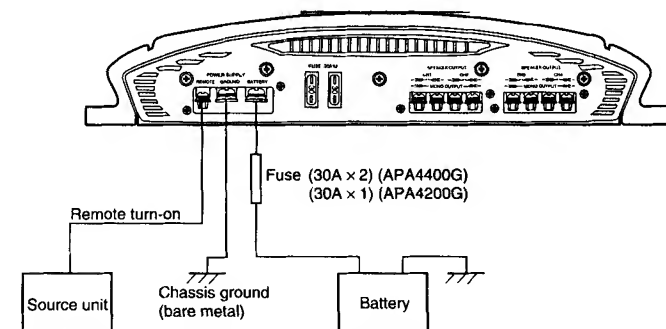

Figure 12 Electrical Connections for the APA4400G/APA4200G Car Audio Amplifier
- Refer to Figure 12 when making electrical connections. Connect the amplifier's positive (+) power lead via a fuse directly to the positive (+) terminal on the car battery. Do not connect this wire to the car's fuse panel. Use the yellow-insulated 8 gauge (for APA4400G) or 10 gauge (for APA4200G) (or longer) wire for the amplifier's positive (+) power lead and the same gauge black insulated wire for the ground.